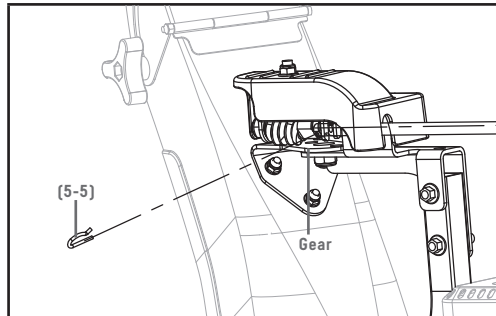

Figure 10B
2. Adjust the fixed hole of the lever and the gear, and then connected with R pin (5-5). (Fig. 10B)